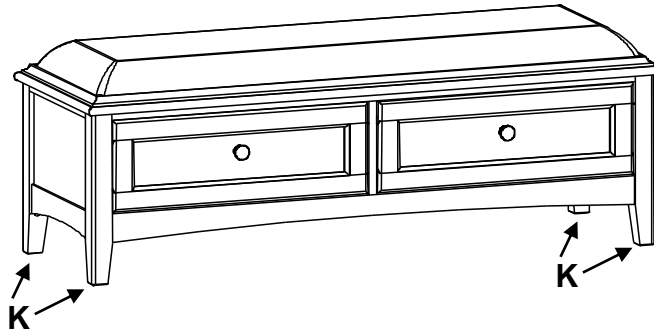

Fig. 3
3. Place the bench at its final destination. Rotate the Adjustable Glides (K) on the bottoms of the legs until the unit is level. See Figure 3.